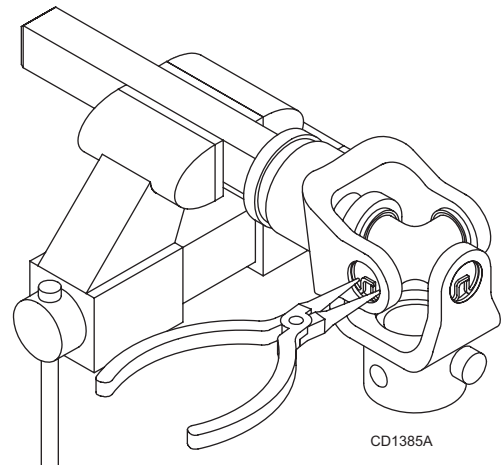

Figure 18. Remove Snap Ring
1. Remove external snap rings from yokes in four locations as shown in Figure 18.